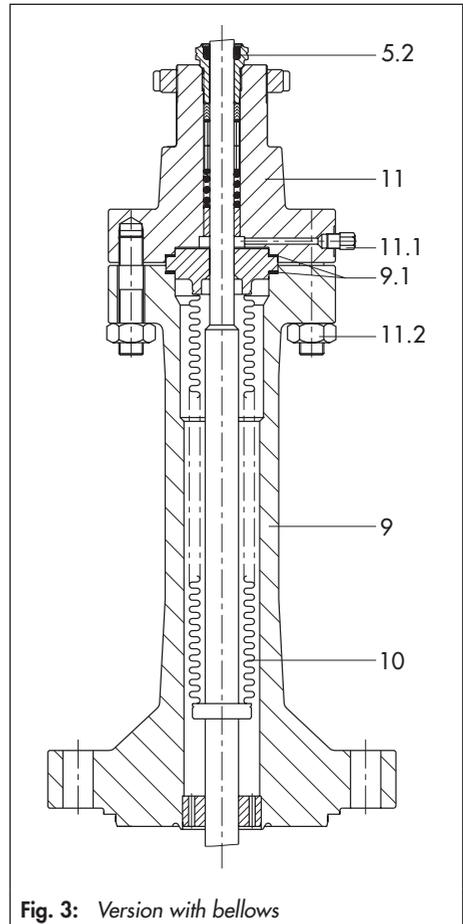

Fig. 3: Version with bellows
Versions with bellows seal (Fig. 3) are fitted with a test connection (11.1) at the top flange to monitor the tightness of the bellows.
The metal bellows (10) can only be replaced as a unit together with the plug stem. Proceed as described in section 6.1.2 (Fig. 3).